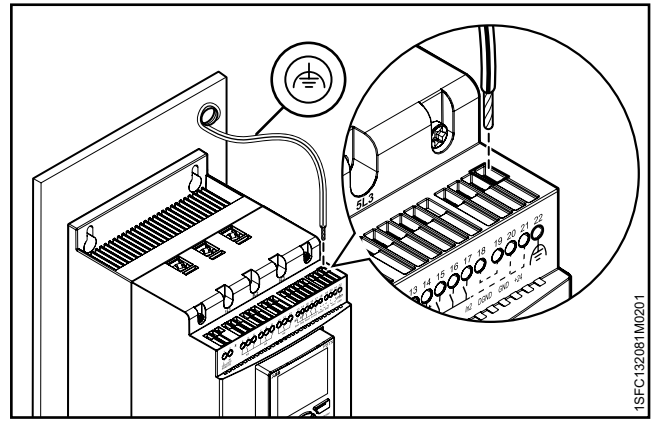

Figure 2.4
- Connect the functional ground (terminal 22), to a ground point close to the softstarter, see **Figure 2.4**.